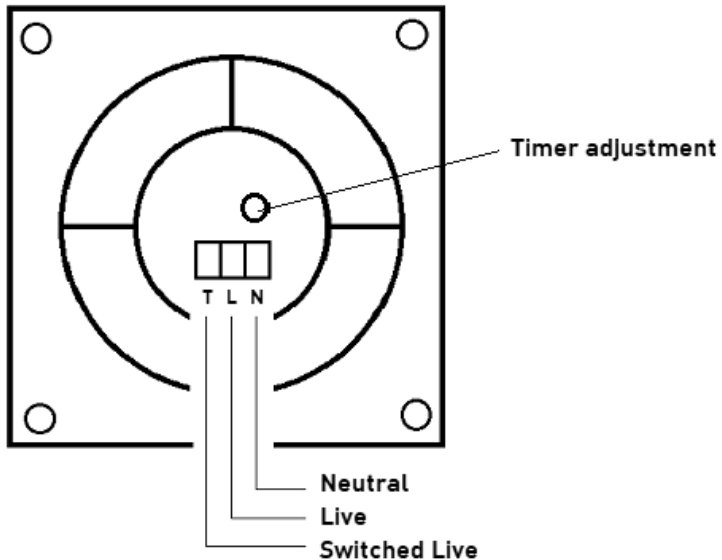

Fig. 3
- Carefully bring the wires into the terminal enclosure and ensuring correct polarity is observed, wire as shown in Fig. 3